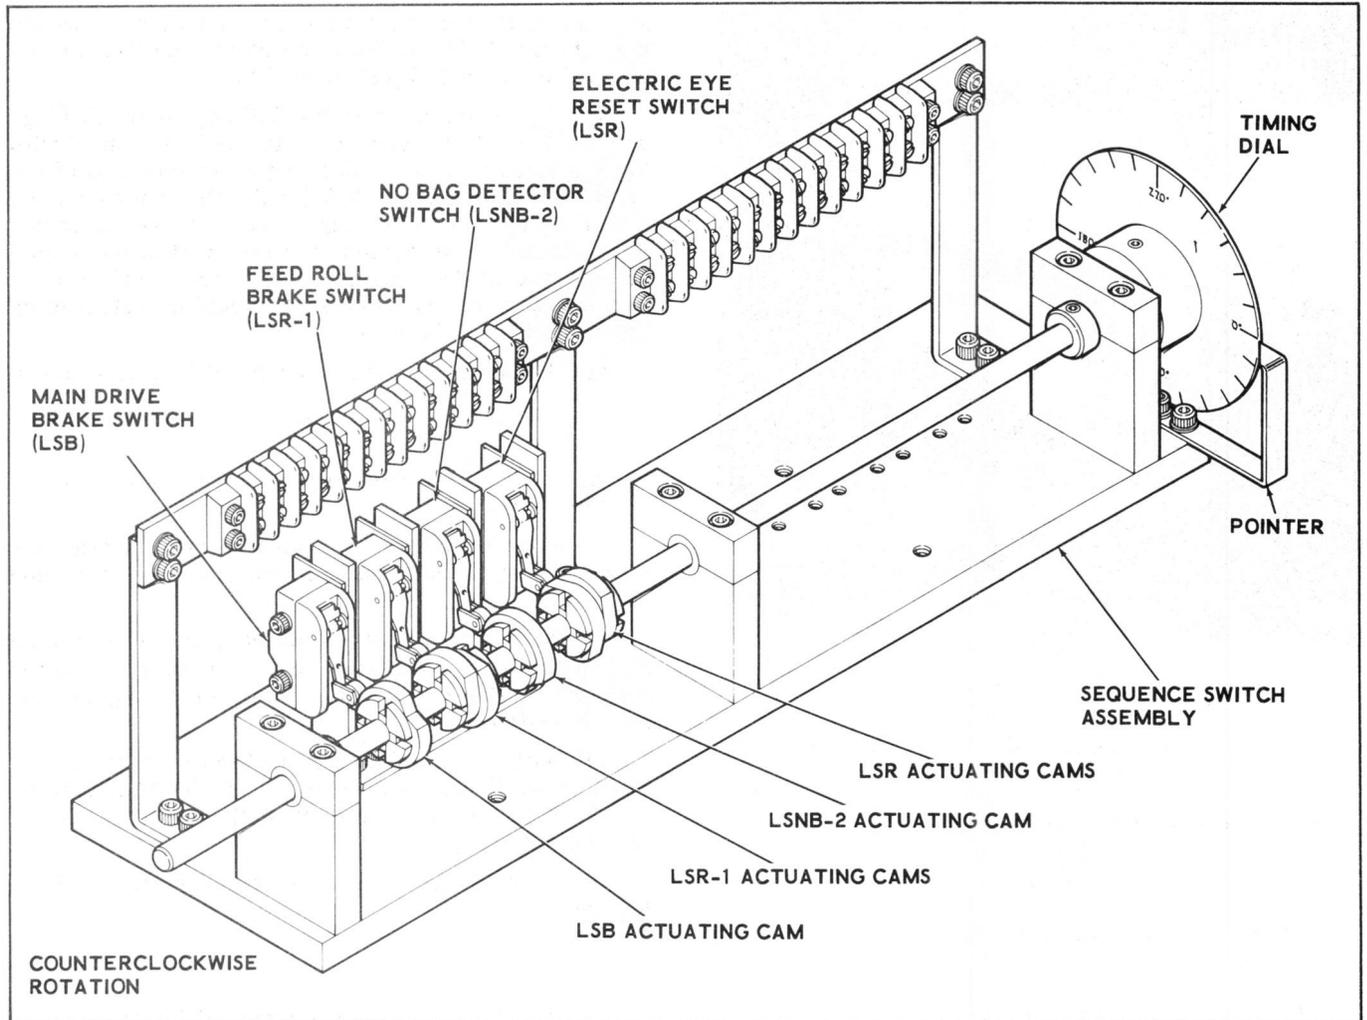
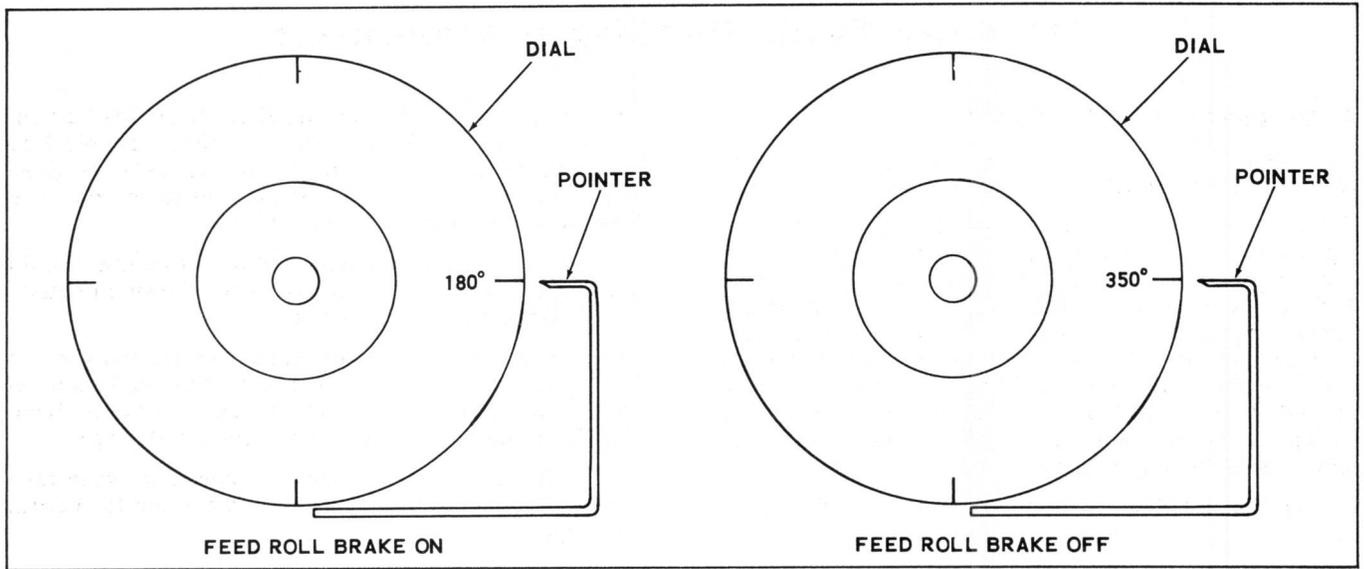
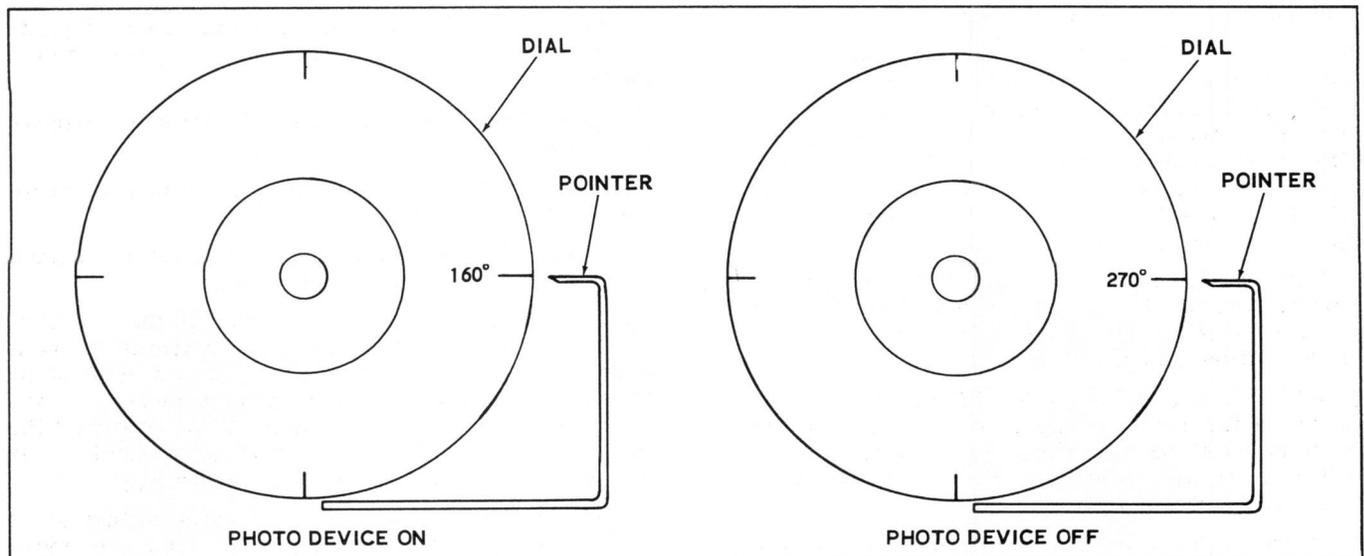

Figure 3-76. Sequence Switch Assembly
Figure 3-79. Setting Feed Roll Brake Switch LSR-1
Figure 3-80. Setting Photo Register Reset Switch LSR
The sequence switch assembly is located in the lower left corner of the electrical control box (Figure 3-74). The assembly is used to time certain electrical operations. The assembly consists of a drive shaft (Figure 3-76) on which are mounted actuating cams and micro switches. A basic Packager has four micro switches; main drive brake (LSB), web feed roll brake (LSR-1), no bag detector (LSNB-2), and electric eye reset (LSR). Additional micro switches and cams may be installed to operate auxiliary equipment on the machine. The cams are rotated by the drive shaft to actuate the micro switches at the desired time. A timing dial is mounted at the driven end of the drive shaft and is used in conjunction with a pointer to time the drive shaft and micro switches. Each revolution of the sequence switch drive shaft will actuate the micro switches at the proper time to: apply and release the feed roll brake, check for a no bag condition at the no bag switch, reset the photo register device and position stop the machine. Any time the machine is shut off, micro switch (LSB) is actuated by its cam to stop the main drive motor in a positioned stop with seal bars in open position.
(1) Jog machine until the 180 degree mark (Figure 3-79) on the sequence switch dial is aligned with the
stationary pointer. Rotate the first half of the actuating cam (Figure 3-76) until the micro switch roller moves off the high lobe and just turns ON.
(2) Jog machine until the 350 degree mark (Figure 3-79) on the sequence switch dial is aligned with the stationary pointer. Rotate the second half of the actuating cam (Figure 3-76) until the micro switch roller moves on to the high lobe and just turns off. As the machine is cycling, the feed roll brake should be actuated at 180 degrees and remain applied until 350 degrees, at which time it should be released by the second part of the cam.
(1) Load web roll into machine and operate machine on RUN until one or two pouches have been produced.
(2) Jog machine until a pouch just enters the no bag switch being carried by the pouch clamp. Stop the machine as the leading edge of the pouch triggers the no bag switch.
(3) With the machine stopped in the position outlined in step (2), rotate cam of switch LSNB-2 (Figure 3-76) until cam follower of the switch is in the cam detent.
(1) Jog machine until the 160 degree mark (Figure 3-80) on the sequence switch dial is aligned with the stationary pointer. Rotate the first half of the actuating cam (Figure 3-76) until the micro switch roller moves off the lobe and just turns on.
(2) Jog machine until the 270 degree mark (Figure 3-80) on sequence switch dial is aligned with the stationary pointer. Rotate the second half of the actuating cam (Figure 3-76) until the micro switch roller moves on to the high lobe and just turns off. With each complete cycle therefore, the photo registration device will be turned on at 160 degrees (this
e. Set the positioned stop LSB. Place the drive selector switch in RUN position and press the drive start switch. Now, press the drive stop switch. The machine should come to a stop with all seal bars in open position. Rotate the LSB switch actuating cam (Figure 3-76) on the sequence switch assembly to actuate the drive brake through its micro switch to stop the machine with seal bars open. Continue to run and stop the packager and adjust the actuating cam until the proper positioned stop is obtained.